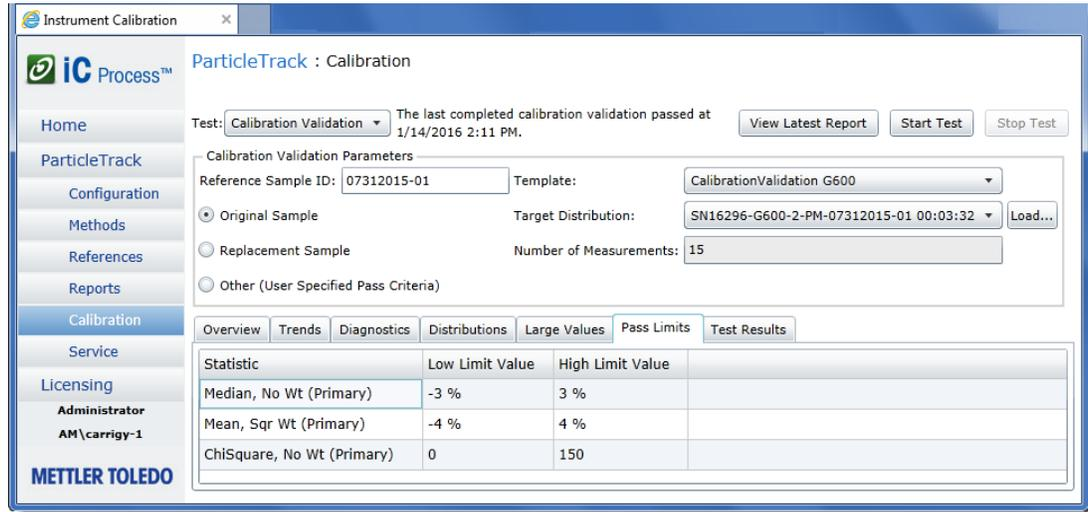

Figure 4—Pass Limits (Percentage variation from template for each statistic)
**Pass Limits Tab**—(Figure 4) This shows the passing criteria for the test.